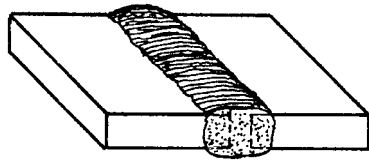

FIG. 8
- (c) From the pictorial sketches in Figures 8, 9, and 10, complete each corresponding welding symbol on the drawings provided.